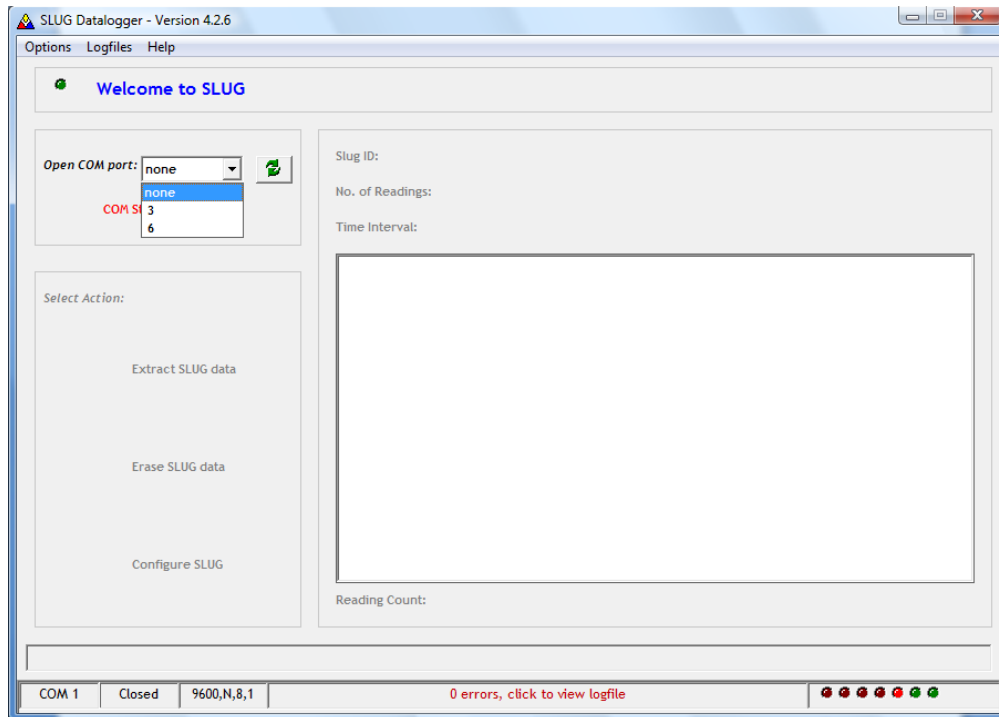

Figure 4: 2 Step COM Port determination for the USB Download cable. In this case the cable is assigned to COM6
- (i) Unplug the USB download cable and click on the green refresh arrows (Figure 4 STEP1). Use the Open COM Port pull-down list to determine pre-existing COM Ports.